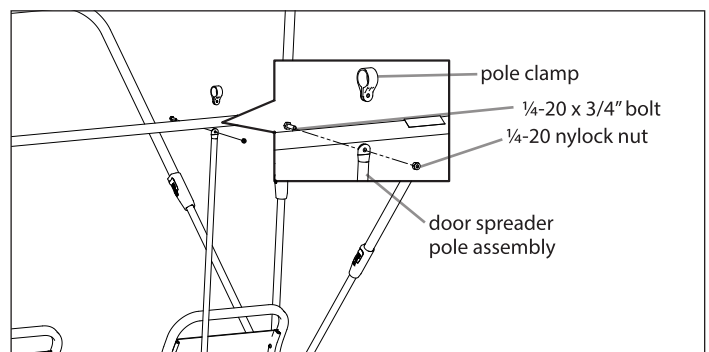

FIGURE 12
18. To attach the rear spreader (15703) pole follow the assembly instructions above for the previous spreader pole attachment. Once the rear pole assembly is attached to the rear upper cross brace insert the plastic stud into the hole centered on the rear lip of the sled. This assembly will make the rear upper cross pole self-supporting. **SEE FIGURE 12**